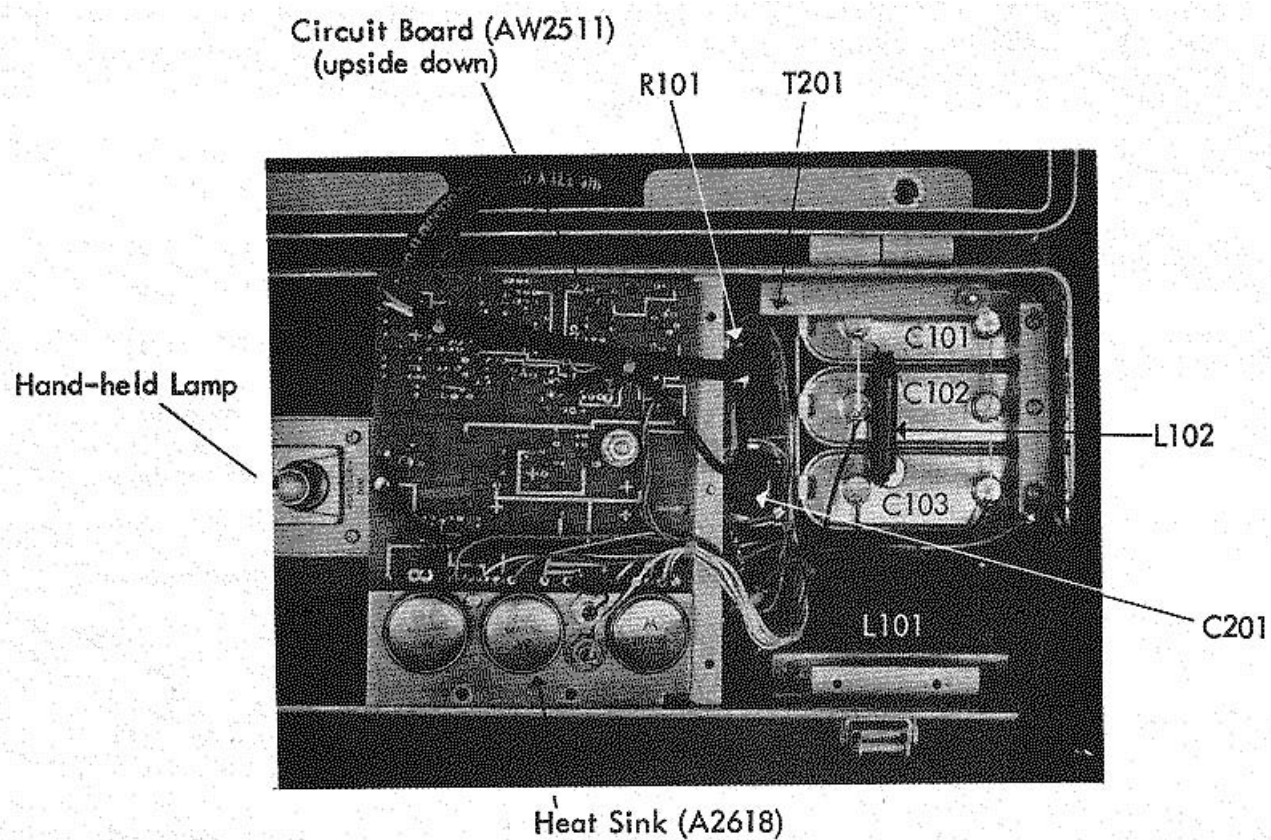

Figure 5-3. Circuit Compartment with Circuit Board Removed.
- d) Circuit board can now be removed. "Rotate" on service loop of cables so that board is upside down over storage area of case. (See Fig. 5-3).